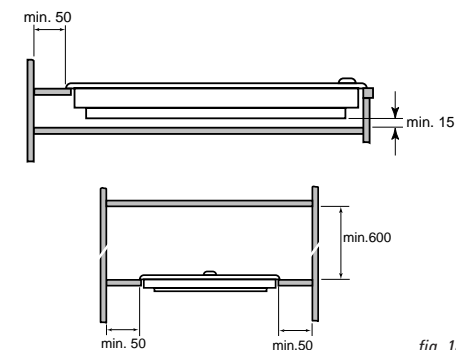

fig. 14
**Caution! For the barbecue this distance should be at least 12 cm.** The distance between an appliance and a cooker-hood placed above it should be at least 60 cm (see fig. 14).